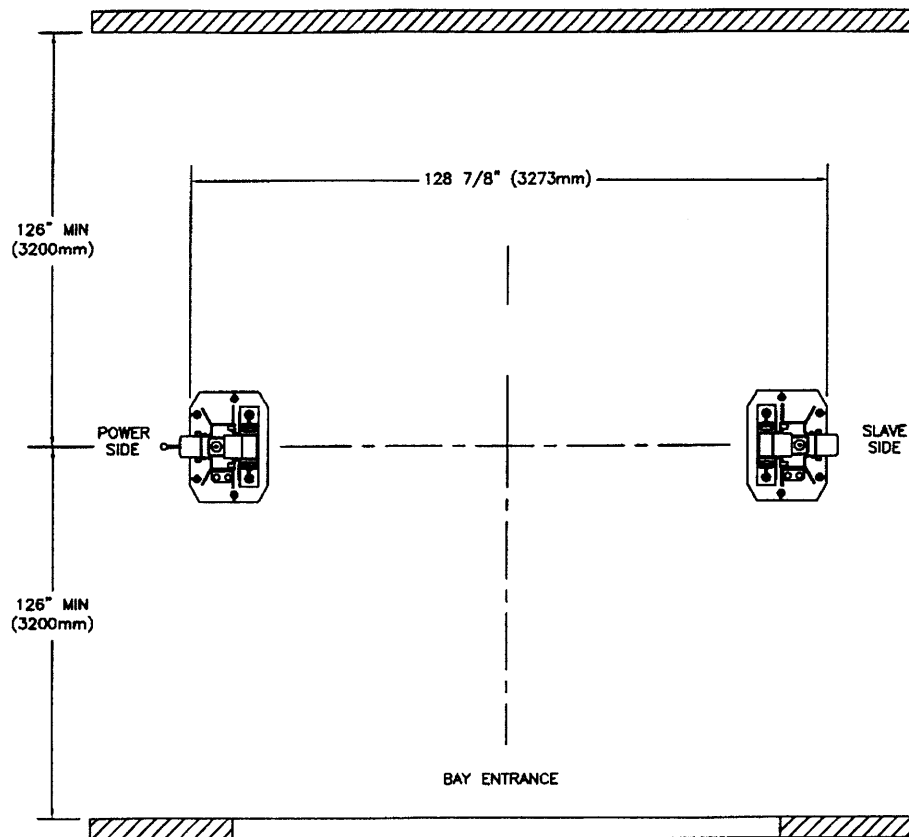

Figure 3 – Bay Layout
7. Prepare the bay by selecting the location of the lift relative to the walls. Clear the installation area of all packaging materials to avoid trip hazards. Draw a chalk line on the floor to represent the centerline of the bay then draw a second chalk line at 90° for locating the lift towers. Refer to **Figure 3**.
1. Locate the power side and slave side towers and position them as shown in **Figure 3**. Double check all the dimensions in the layout.
3. Check the towers to make sure they are located, and positioned in the correct location. Refer to **Figure 3**.
3. Refer to Bay Layout (**Figure 3**) to ensure that the column is still in the proper position. Using a rotary hammer drill with a 3/4" masonry drill bit, drill holes in the floor on the high side column using the tower baseplate as a template. Make sure that the 3/4" masonry drill is in good condition ().